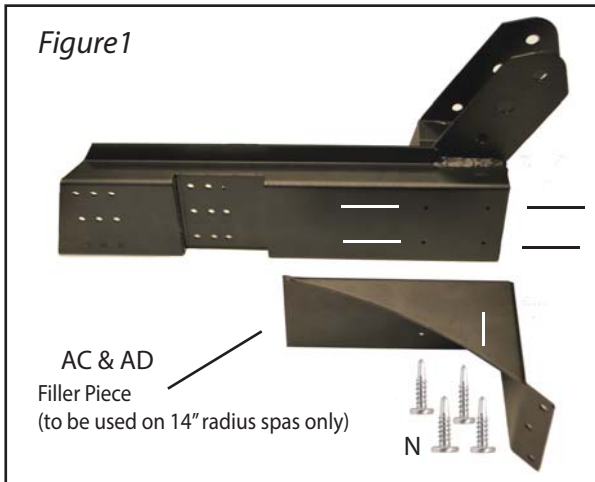

Figure 1
For 8" radius spas, skip to step 3. For 14" radius spas, attach the filler pieces to the left & right mounting brackets using (8) #10 x 5/8" self tapping screws. (see Fig. 1)